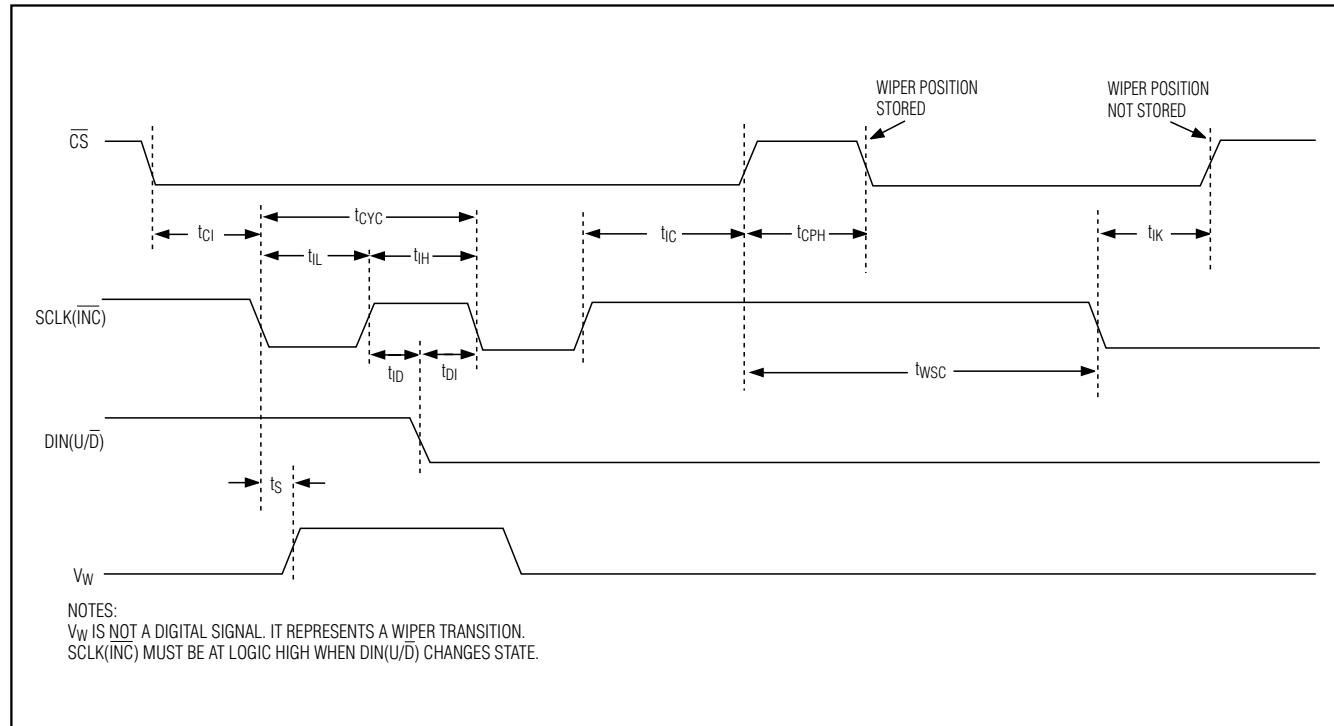

Figure 8. Up/Down Serial-Interface Timing Diagram ($SPI/UD = 0$)
Figure 8 illustrates an up/down serial-interface timing diagram. In digital up/down interface mode (SPI/UD = 0), the logic inputs CS, DIN(U/D), and SCLK(INC) control the wiper position and store it in nonvolatile memory (see Table 3). The chip-select (CS) input enables the serial interface when low and disables the interface when high. The position of the wiper is stored in the nonvolatile register when CS transitions from low to high while SCLK(INC) is high.